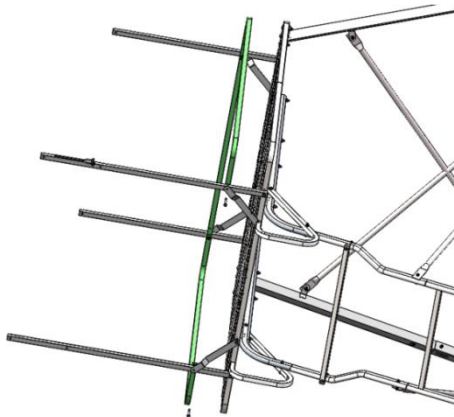

Figure 19
Step 18: Attach the assembled shooting rail to the two platform vertical rails (TS305.11),the door upright rail (TS305.16) and the door upright left rail (TS305.22) by using four 1/4"-20×2-1/4" bolts (48271B) and four 1/4" lock nuts (48752B). Leave these hand tight for now. (**Figure 19**)